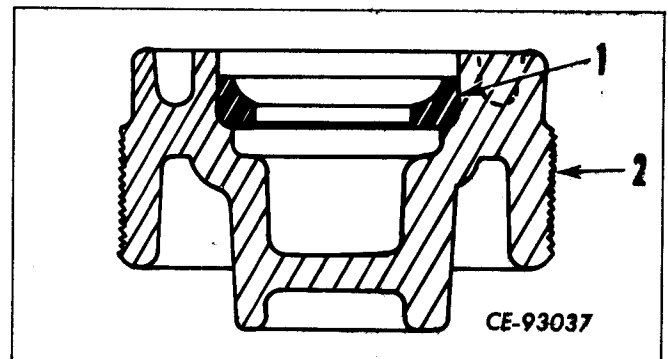

Figure 8-8
Pull old cup (1, Fig. 8-8) from the adjuster (2). Carefully press a new cup into the adjuster using a minimum of 7,000 lbs. force to seat the cup.